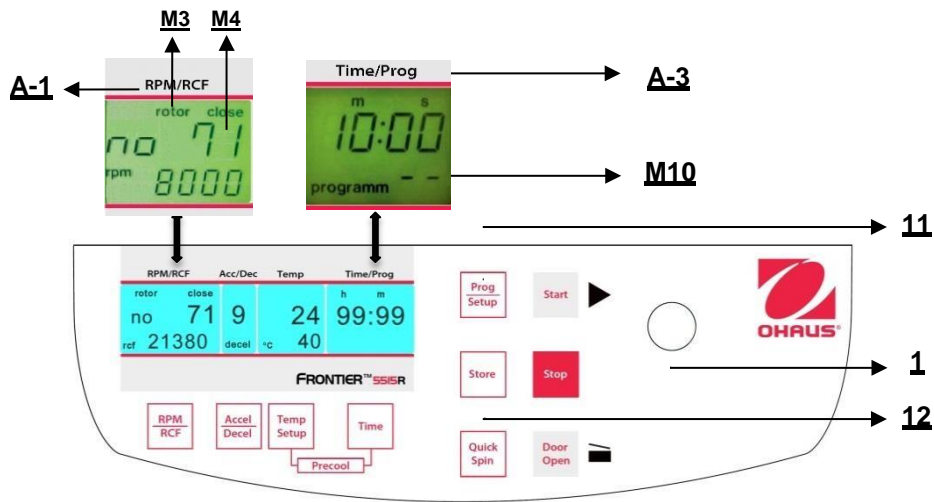

Figure. 25
To recall stored programs press the key "Prog/Setup" (11) (refer to figure 25) while the lid is already closed. Inside the display "Time/Prog" (A-3), "programm -" (M10) appears. The desired program number can be pre-selected with the adjusting knob (1).
To leave the program mode just press the key "Prog/Setup" (11) (refer to figure 25). Then inside the display "Time/Prog" the word "programm" appears.